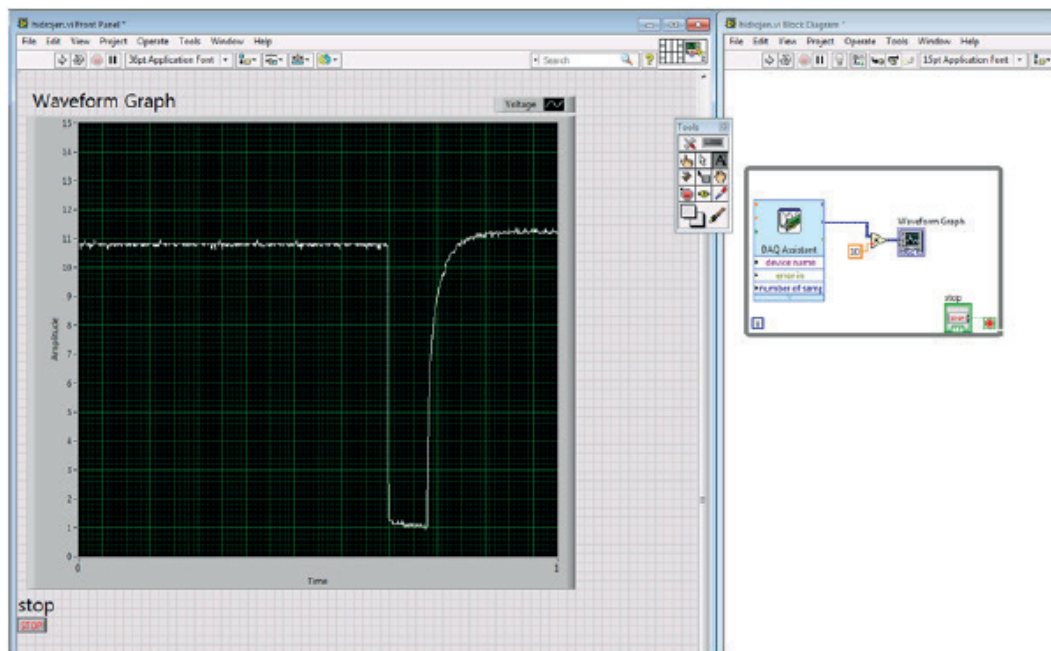

Figure-2
- 5) Double click on DAQ Assistant icon and make the relevant settings on the window as shown in Figure-2.